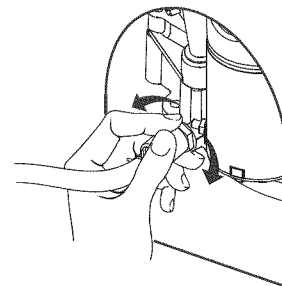

Figure 15 — Oil Drain Fitting
2. Push in and rotate oil drain fitting 1/4 turn counterclockwise. Slowly pull outward until oil starts draining (Figure 15). **DO NOT** pull oil drain fitting off.